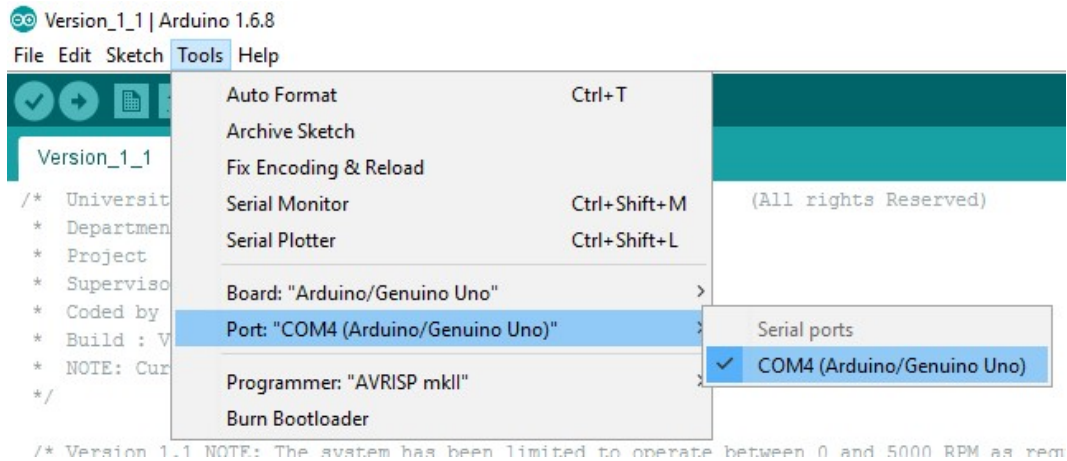

Figure 14 Port selected
6. Turn on the LabVIEW application and set an input RPM in the text box. The LabVIEW interface is shown in Fig 14. Enter the RPM in text box marked as '2'. Then press the button shown in '1' to start transmitting the RPM to the processor.
8. Once the experiment is concluded, turn off the experiment by switching the on/off toggle switch to the off position. Wait till the prompt “Shutting down” is displayed on the serial monitor and the transition process is complete. Turn off the motor driver toggle switches. From Fig 14, press button ‘3’ on the LabVIEW application. This turns off the input RPM transmission from the DAQ.